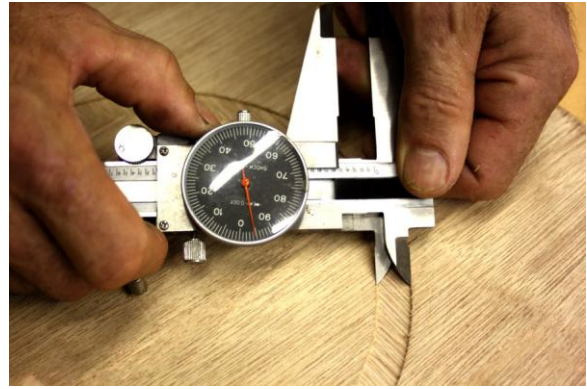

Fig. 4
- B. Using calipers, measure the width of cut of your softwood groove (Fig. 4). Record this number. **NOTE:** Do not skip this step and assume that a 1/2 inch bit truly cuts a half an inch. This is rarely the case and precision is needed.